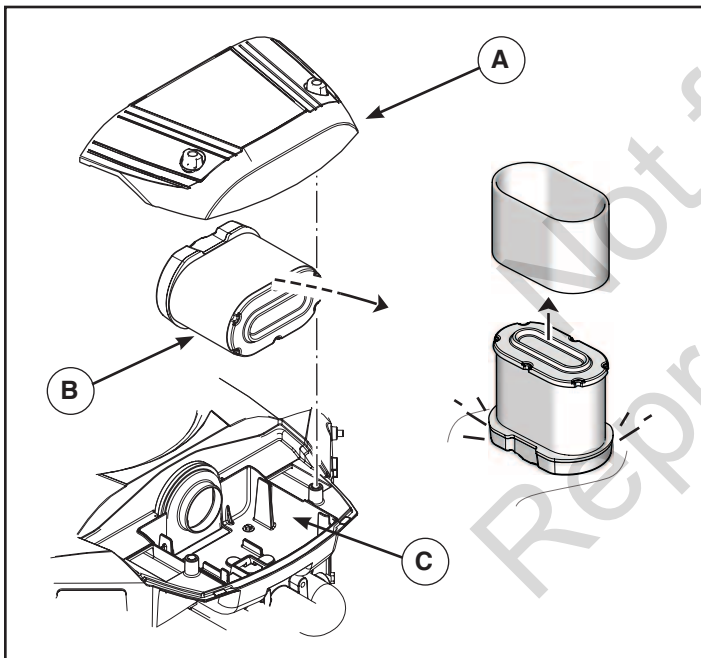

Figure 11
1. Unscrew and remove cover (A, Figure 11).
2. Remove air cleaner assembly (B) and disassemble.
3. Clean up any possible debris that might get into the carburetor throat (C).